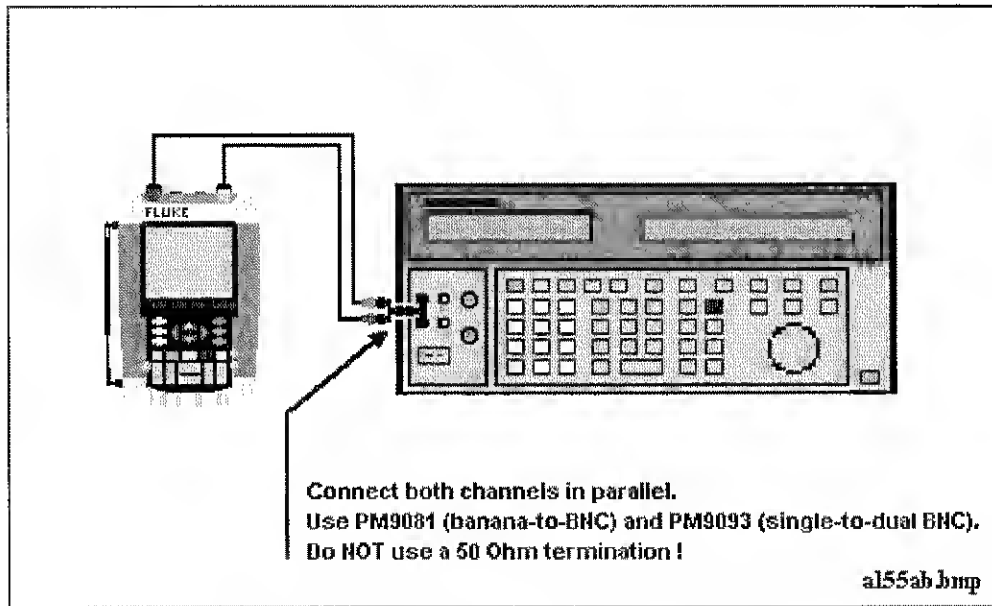

Figure 4-3. Test Tool Input A&B to 5500 Normal Output
1. Connect the test tool to the 5500A as shown in Figure 4-3.
1. Connect the test tool to the 5500A as for the previous test (see Figure 4-3).